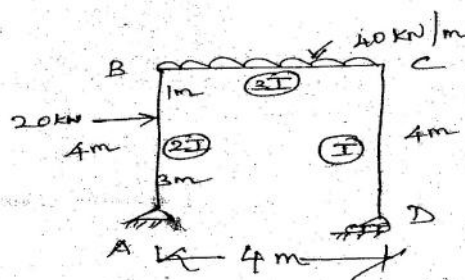

Figure-2
2. Analyse the frame shown in figure-2 by slope deflection method.